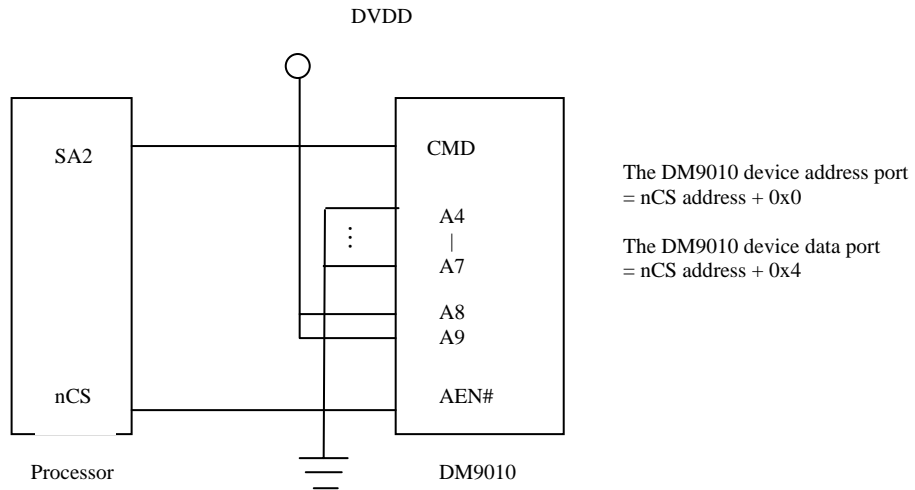

Figure 2.3 DM9010 CMD Pin and Processor Parallel Bus.
cycle is for ADDRESS port. The following diagram (Figure 2.3) is an example for the CMD pin (92) connected to an embedded system.